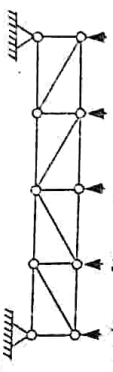

Fig. 1.7.2. (Externally) indeterminate truss.
2. For the truss as shown in the Fig. 1.7.2, we have  $m = 17, j = 10$ , and  $r = 4$ .